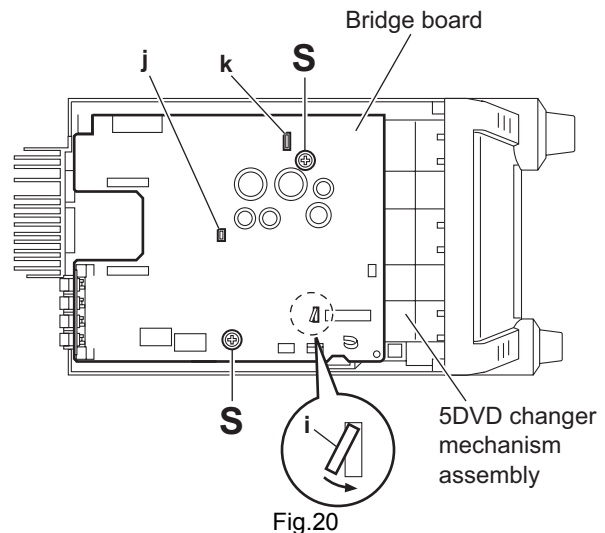

Fig.20
- (6) Remove the two screws **S** attaching the bridge board on the 5DVD changer mechanism assembly. (See Fig.20.)
- (7) Bend the claw **i** in the direction of the arrow and remove the bridge board in an upward direction. (See Fig.20.)
- When attaching the bridge board, align the projections (**j**, **k**) in the hole of the bridge board. (See Fig.20.)